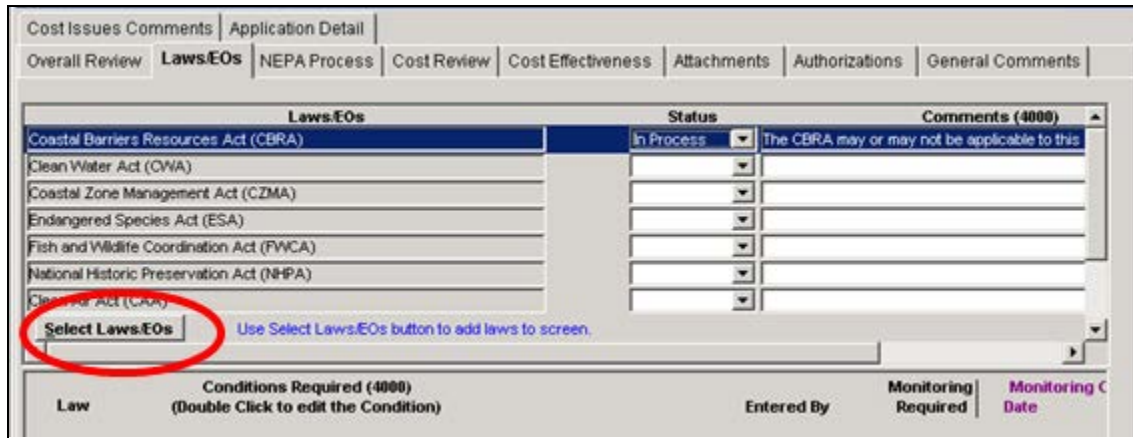

Figure 7-30: Select Laws/EOs Button
6. In the middle left part of the tab, click the SELECT LAWS/EOS button if you need to add Laws/EOs to the list (Figure 7-30). Complete Steps 6a-6d.